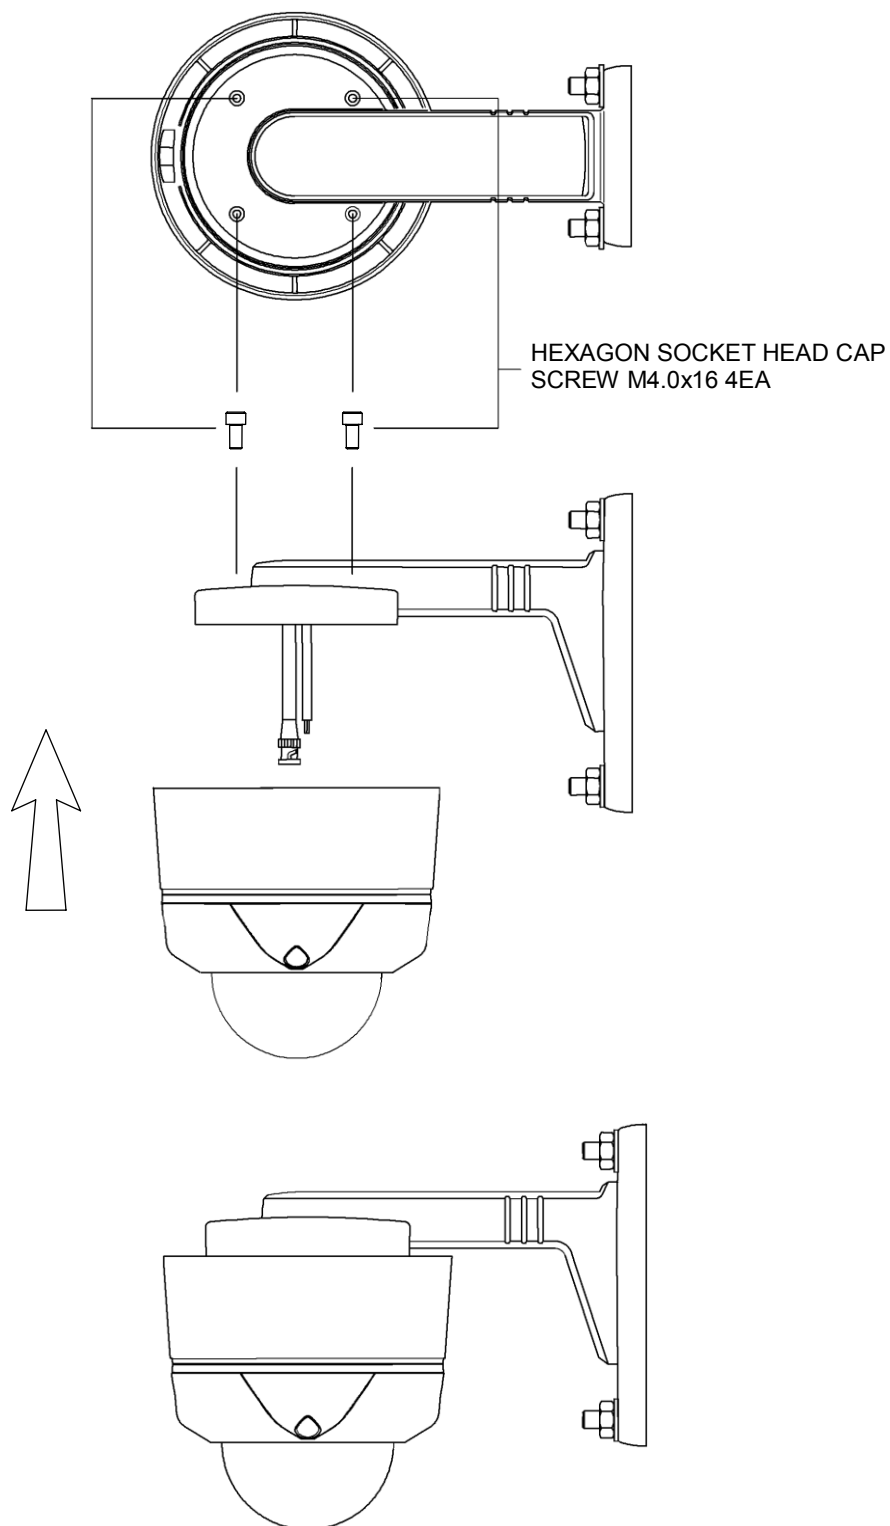

FIG. 20
4. Assemble a wall mount bracket and camera by Hexagon socket head cap screws (M4.0X16) (FIG. 20)